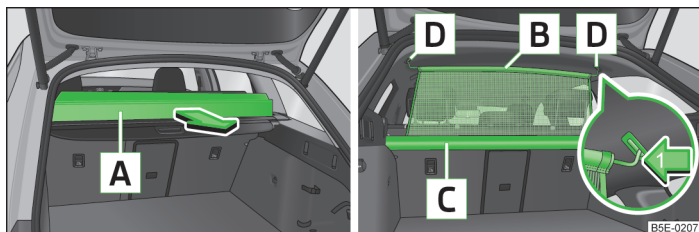
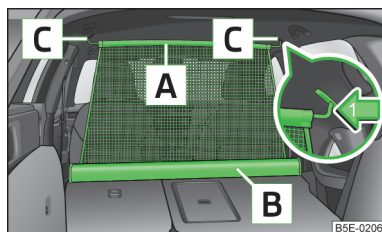

Fig. 101 Folding out part of the roll-up luggage compartment cover/net partition behind the rear seats in the pulled-out state
Fig. 103
- Check that the crossbar of the net partition is hung firmly into the receptacles **D** » Fig. 101 on page 102 and **C** » Fig. 103 on page 103.
- Fold out part of the roll-up luggage compartment cover **A** in the direction of the arrow » Fig. 101.
- Pull out the net partition at the upper crossbar **A** from the housing **B** » Fig. 103.